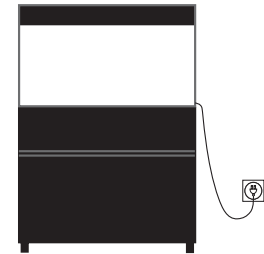

Figure 1: Drip Loop
- b. To avoid the possibility of the appliance plug or receptacle getting wet, position the aquarium stand and tank to one side of a wall mounted receptacle to prevent water from dripping onto the receptacle or plug. You should create a "drip loop" (see Figure 1) for each cord connecting an aquarium appliance to a receptacle. The "drip loop" is that part of the cord below the level of the receptacle, or the connector. Use an extension cord, if necessary, to prevent water traveling along the cord and coming into contact with the receptacle. If the plug or receptacle does get wet, DO NOT unplug the cord. Disconnect the fuse or circuit breaker that supplies power to the appliance. Then unplug the device and examine for presence of water in the receptacle.